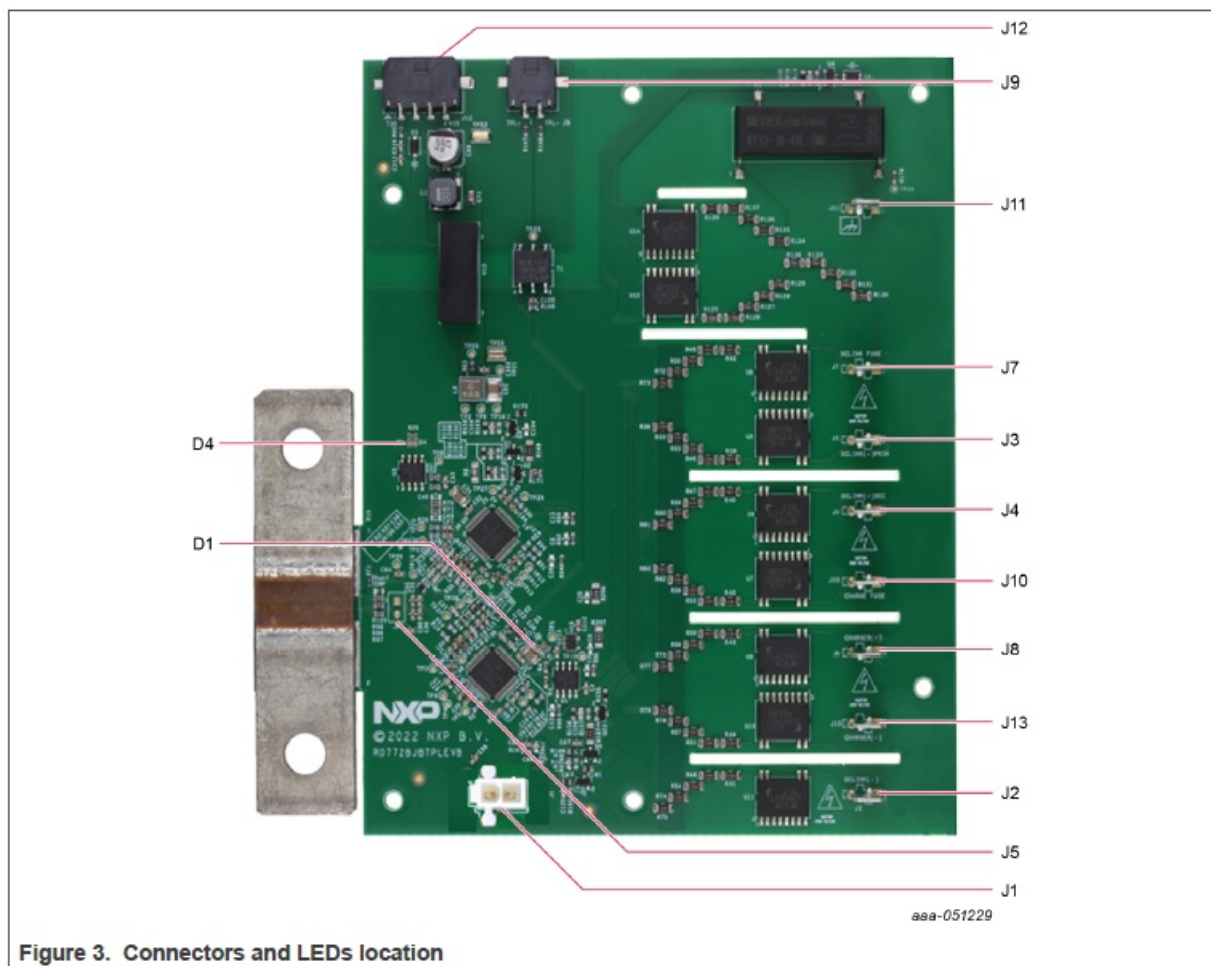

Figure 3. Connectors and LEDs location
- The Figure 3 lists the connectors and the LEDs available on the RD772BJBTPL8EV8.
Figure 3 highlights two LEDs: